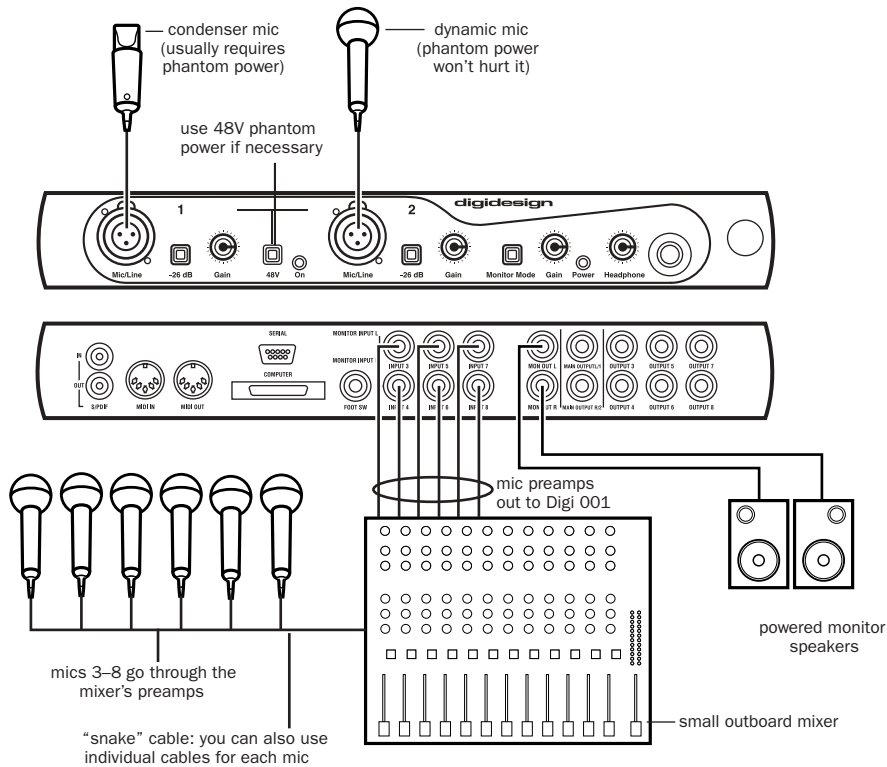

Figure 6. Connecting several microphones to a Digi 001
- Plug a microphone directly into Mic/Line Input 1 or 2 on the front of the Digi 001 I/O Box (see Figure 6 on page 38). These inputs accept XLR connectors or 1/4-inch TRS connectors. If your microphone requires phantom power, press the Phantom Power switch (labeled 48V).